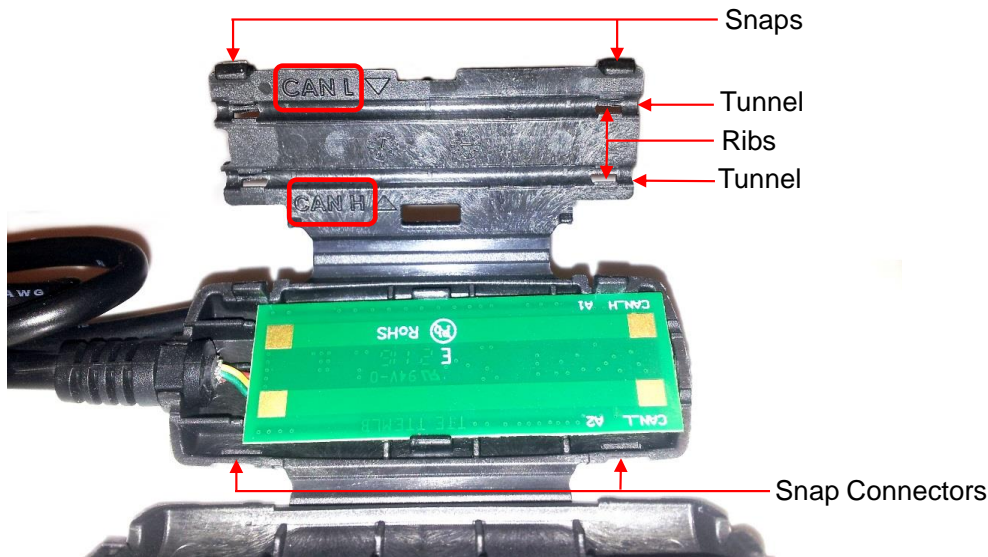

Figure 3: CAN Contactless Adapter Enclosure
2. Place the two CAN wires (CAN-H and CAN-L) into their relevant tunnels on the wires bracket, as indicated on the wires bracket, as shown in Figure 3 (the CAN-H wire should only be entered into the CAN-H tunnel; similarly, the CAN-L wire should only be entered in the CAN-L tunnel). Note that the cables should be slotted in securely in the tunnels via the ribs at each end of the tunnel; ensure the wires remain straight as they are inserted into the tunnel.